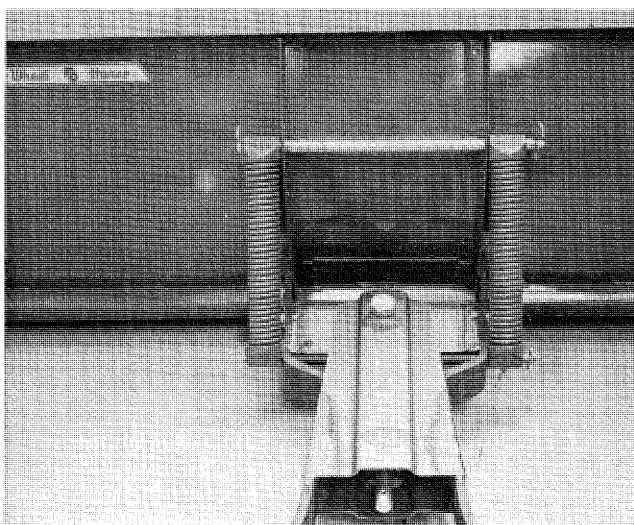

FIGURE 1
1. The blade is shipped complete in one carton. There are three (3) main parts in the carton: the blade assembly, frame assembly, and blade pivot handle. Remove the parts from the carton.
2. Position the blade and frame assemblies as shown in figure 1 and 2, insert the lower pivot rod through matching holes in the sector and blade brackets. Secure with hairpin cotters.